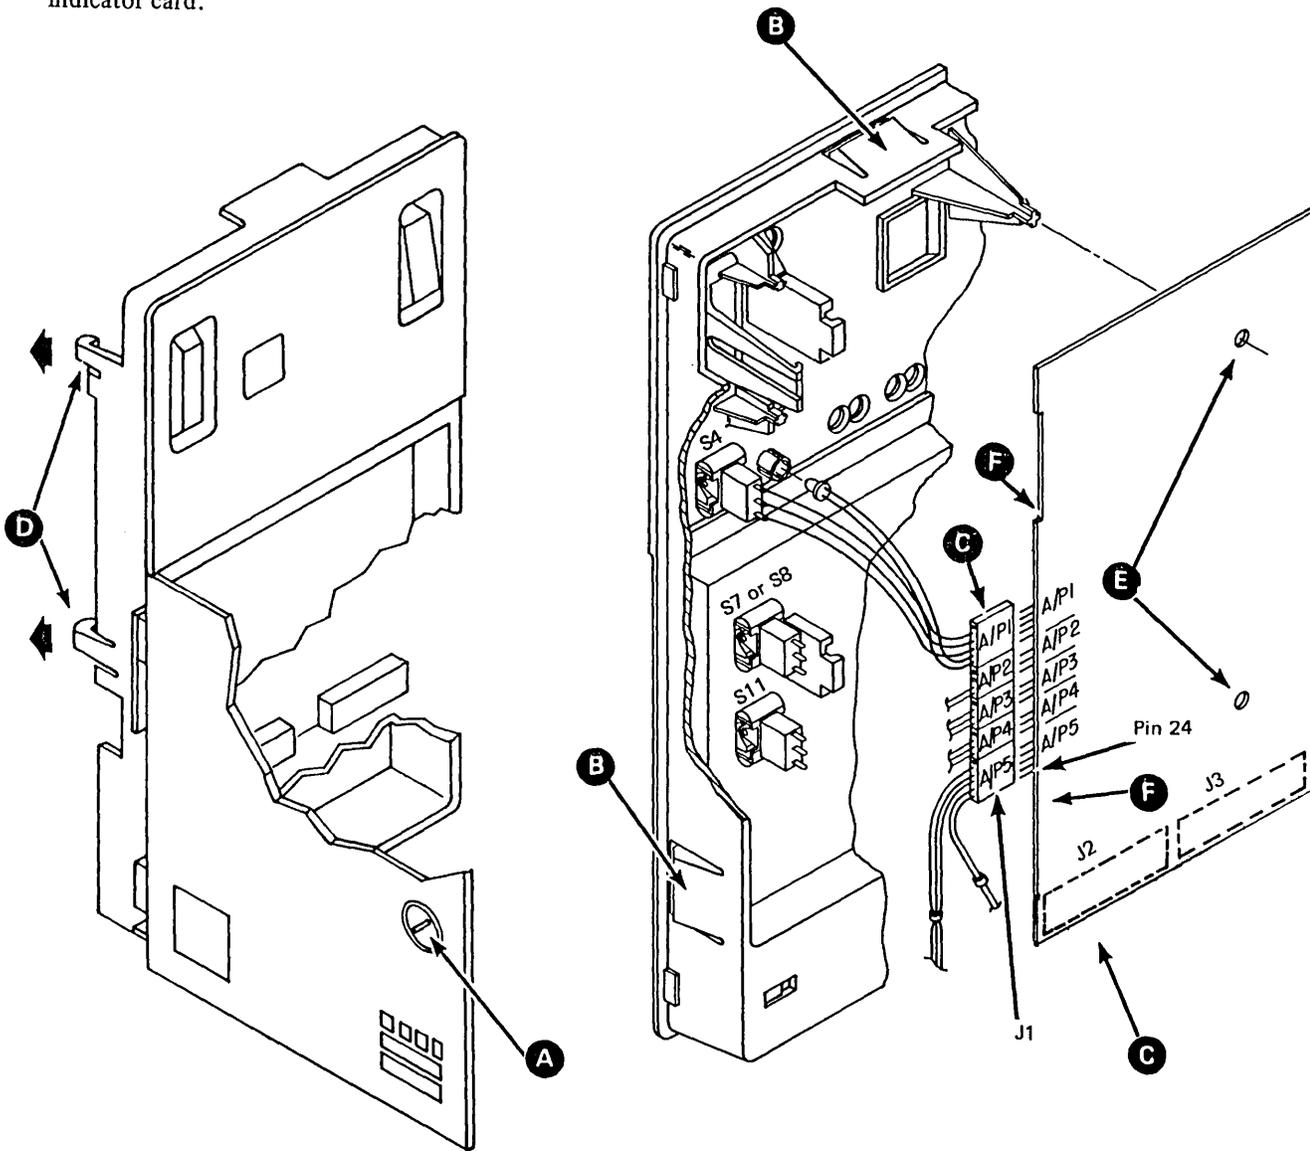

Figure 4-13. Operator Panel/Indicator Card
4.14 Operator Panel/Indicator Card, Removal and Replacement (Figure 4-13)